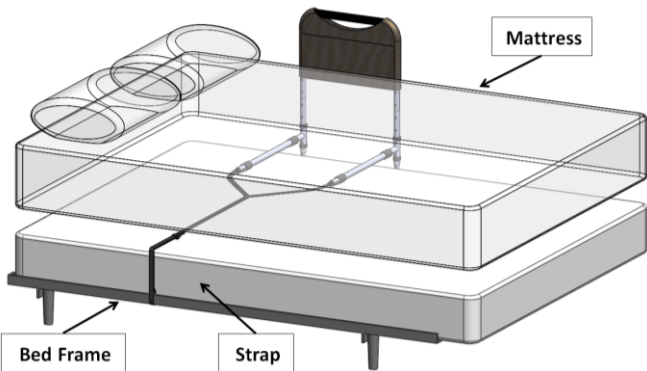

FIGURE 5
5. Slide Bed Rail against the side of the mattress and tighten the Strap to prevent the bed rail from moving away from the bed as show in Figure 5.